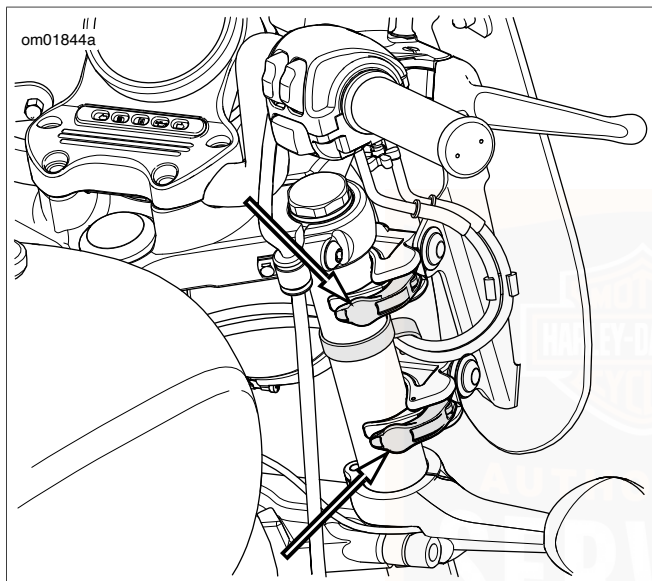

Figure 25. Windshield Clamp Levers
1. See Figure 25. Support the windshield and open the clamp levers.